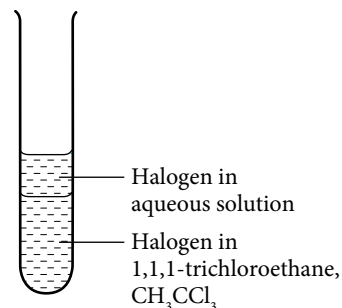

Figure 1.12
2. Add 2 cm^3 of the organic solvent 1,1,1-trichloroethane, CH_3CCl_3 into the test tube as shown in Figure 1.12.